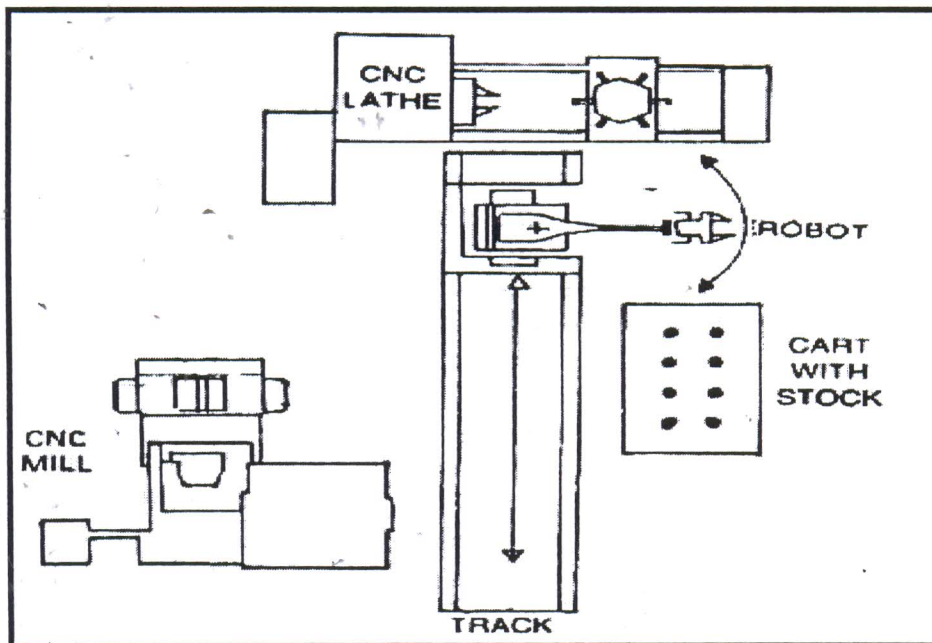

Figure 6: Machining cell layout from top view.
- (e) Based on **Figure 6**, describe the role of the robot. (3 marks)
- (f) List at least 2 safety requirements for robotic application in **Figure 6**. (4 marks)